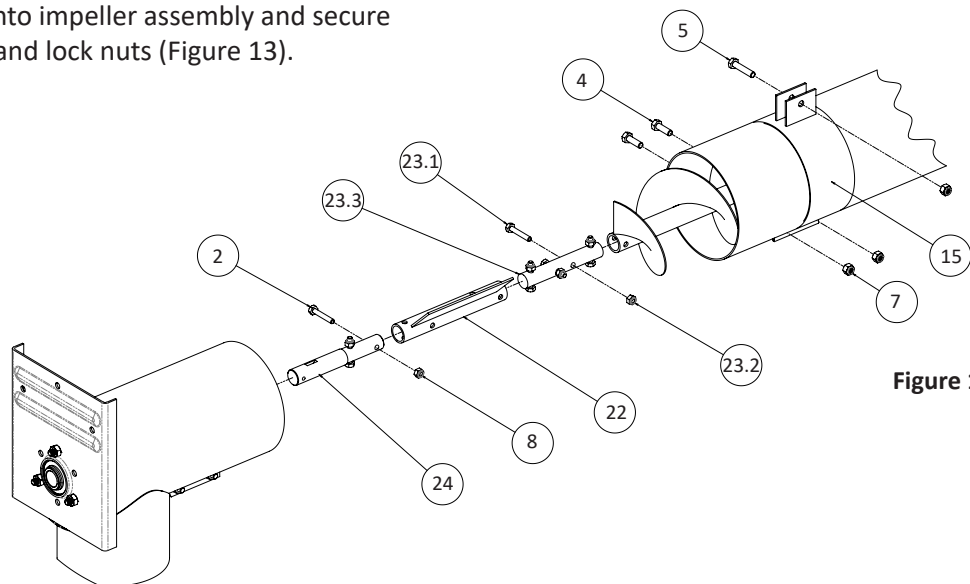

Figure 13
3. Insert the auger drive shaft into impeller assembly and secure with 1/4" x 1-1/2" hex bolts and lock nuts (Figure 13).